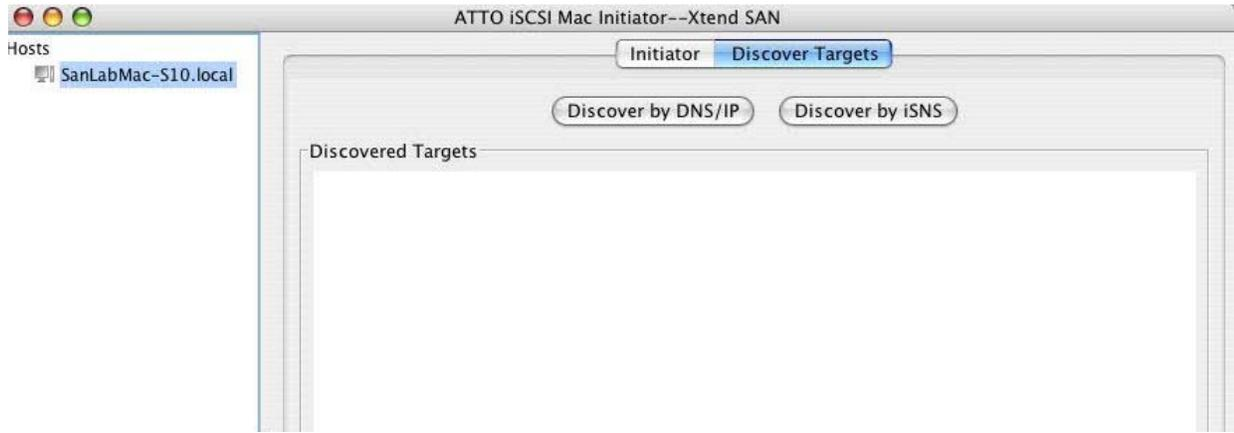

Figure 25 Discover targets
- a. Select **Discover Targets** and then select **Discover by DNS/IP** (Figure 25).